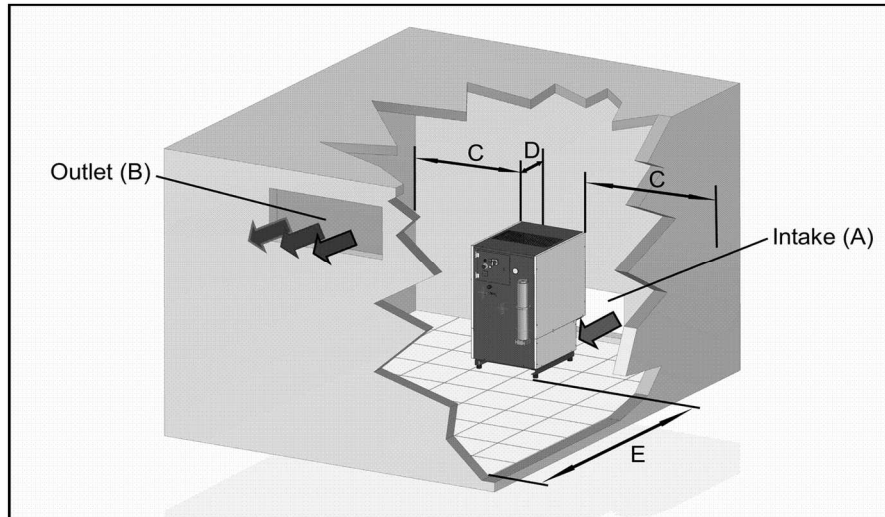

Fig. 2
- Place the compressor preferably in the coldest area of the room. In the case of natural ventilation make sure that the compressor is as close as possible to the fresh air intake and that it has the appropriate dimensions. In addition to this there must be an opening in the upper part of the room that gives the possibility to dispose of hot air, and also that it has the appropriate size (see Table A and Fig. 2). The two openings should not be on the same wall, otherwise make sure to direct hot air upwards.